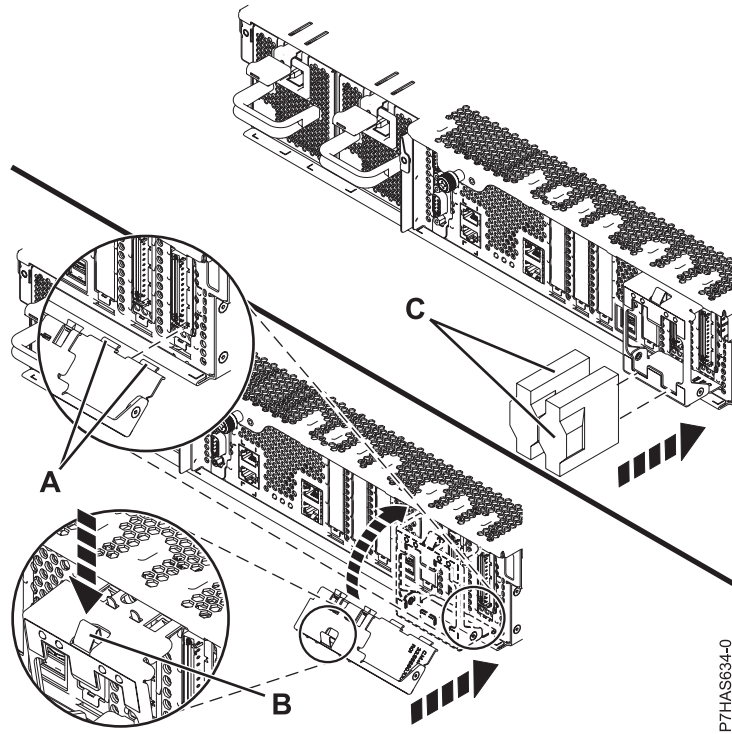

Figure 5. Installing the cable retention bracket installation
16. If the cable retention bracket (A), shown in Figure 5 on page 6 is provided, complete the following steps:
- a. Tilt the cable retention bracket (A) to hook the tab at the bottom of the bracket into the slot in the assembly.
- b. Swing the cable retention bracket toward the chassis and push the bracket fastener (B) into the chassis opening to secure the bracket.
17. From the rear of the system, attach the adapter cables (C).